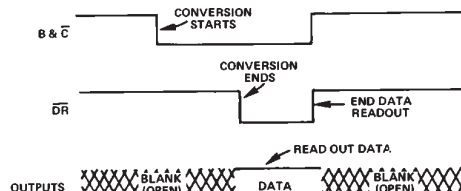
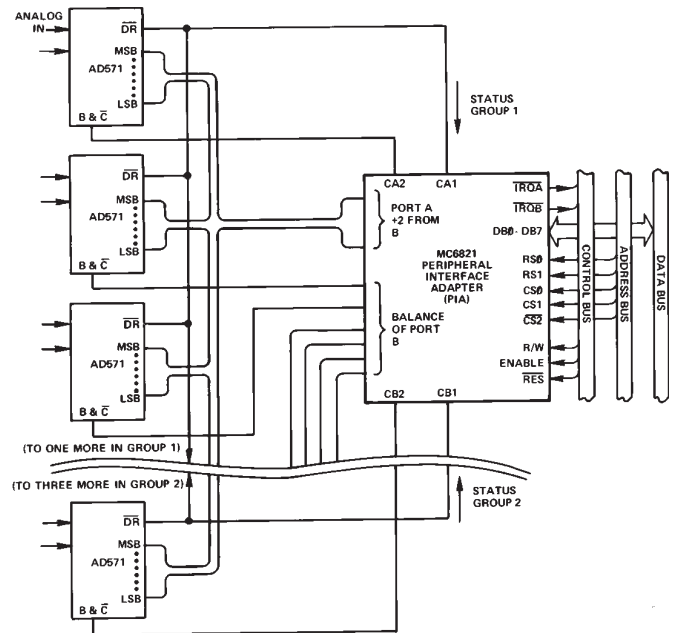

Figure 12. Multiplex Mode
Figure 15. Multiplexing 8 AD571s Using Single PIA for μP Interface. No Other Logic Required (6800 Control Structure)
**Multiplex Mode**—In this mode the outputs are blanked except when the device is selected for conversion and readout; this timing is shown in Figure 12. A typical AD571 multiplexing application is shown in Figure 15.
An improved technique for interfacing to a μP bus involves the use of special peripheral interfacing circuits (or I/O devices), such as the MC6821 Peripheral Interface Adapter (PIA). Shown in Figure 15 is a straightforward application of a PIA to multiplex up to 8 AD571 circuits. The AD571 has 3-state outputs,